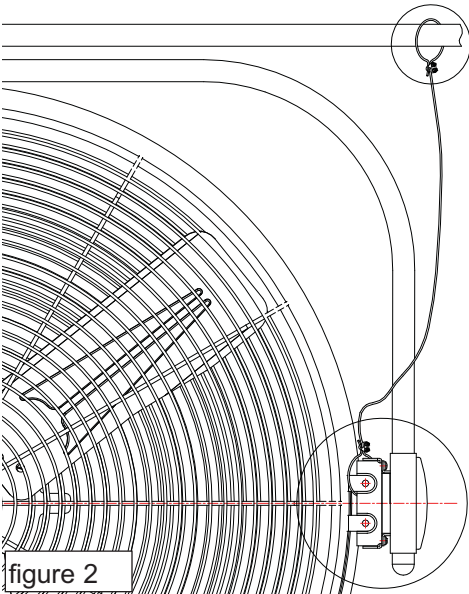

figure 2
1. After the fan is securely mounted, feed the safety cable between one of the swivel brackets as shown in figure 2.